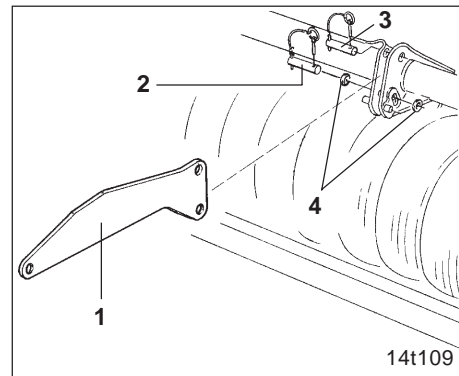

Fig. 7.5
For attaching or removing the packer rollers, always hitch the mounting arms (Fig. 7.5/1) with **two pins** (Fig. 7.5/2 and Fig. 7.5/3) to the rollers. When the combination is equipped with a pack top seed drill (not applicable for pack top seed drills AD-PL) which is attached to the soil tillage implement and the packer roller, remove the upper pins (Fig. 7.5/3) (please refer to instruction manual for pack top seed drills AD-AD-P and AD-PL).
**Arrest the lower pins (Fig. 7.5/2) with 2 washers (Fig. 7.5/4) to prevent the pins moving out of the slotted holes of the lower three point linkage**
If necessary, also fix the brake (Fig. 7.6/1) of the tyre packer roller. When fixing the brake, the two washers (Fig. 7.5/4) are not mounted.